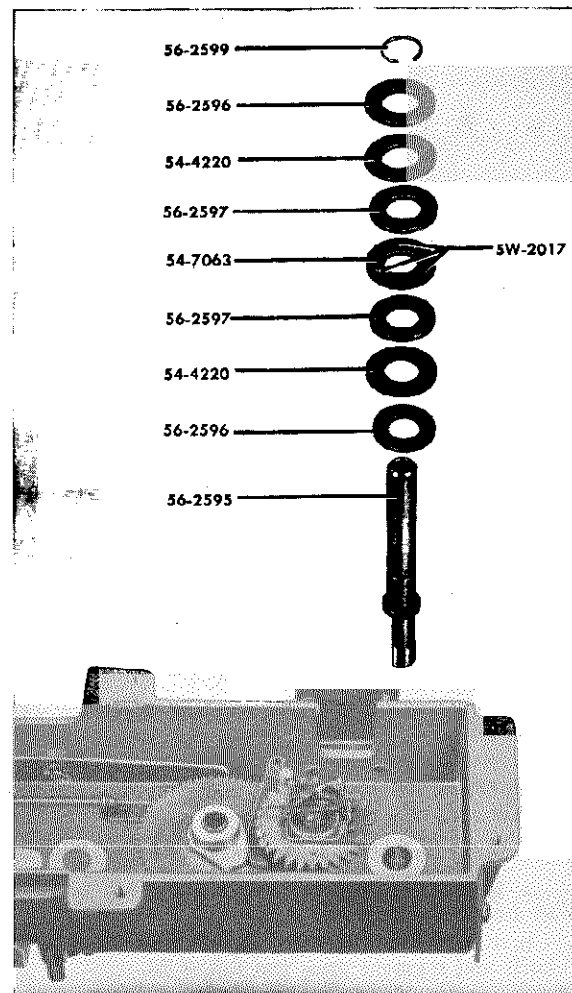

Figure 31—DISASSEMBLY OF TURNTABLE SHAFT AND BEARINGS.
- c. Remove spring ring 56-2599, steel washer 56-2596, neoprene washer 54-4220, ball race 56-2597, ball retainer 54-7063, ball race 56-2597, neoprene washer 54-4220, and steel washer 56-2596, in order, as shown in figure 31.